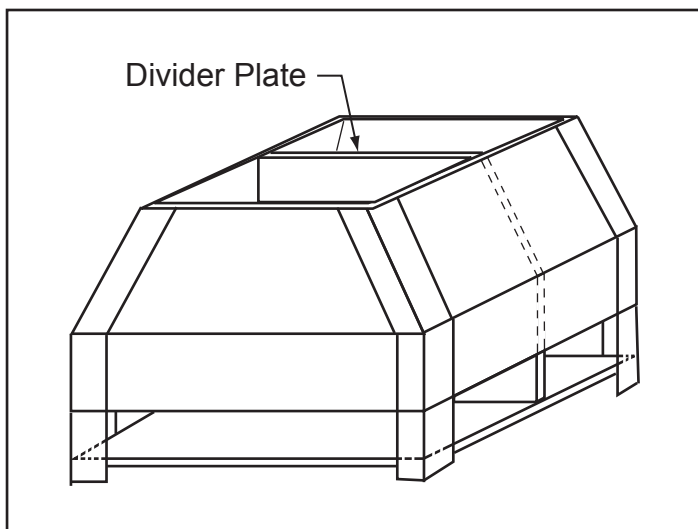

Figure 13 Divider Plate
- A divider plate must be made and installed in the shroud to separate the different systems. This will help prevent one system that is in use from interacting with another system that may not be in use. See Figure 13.